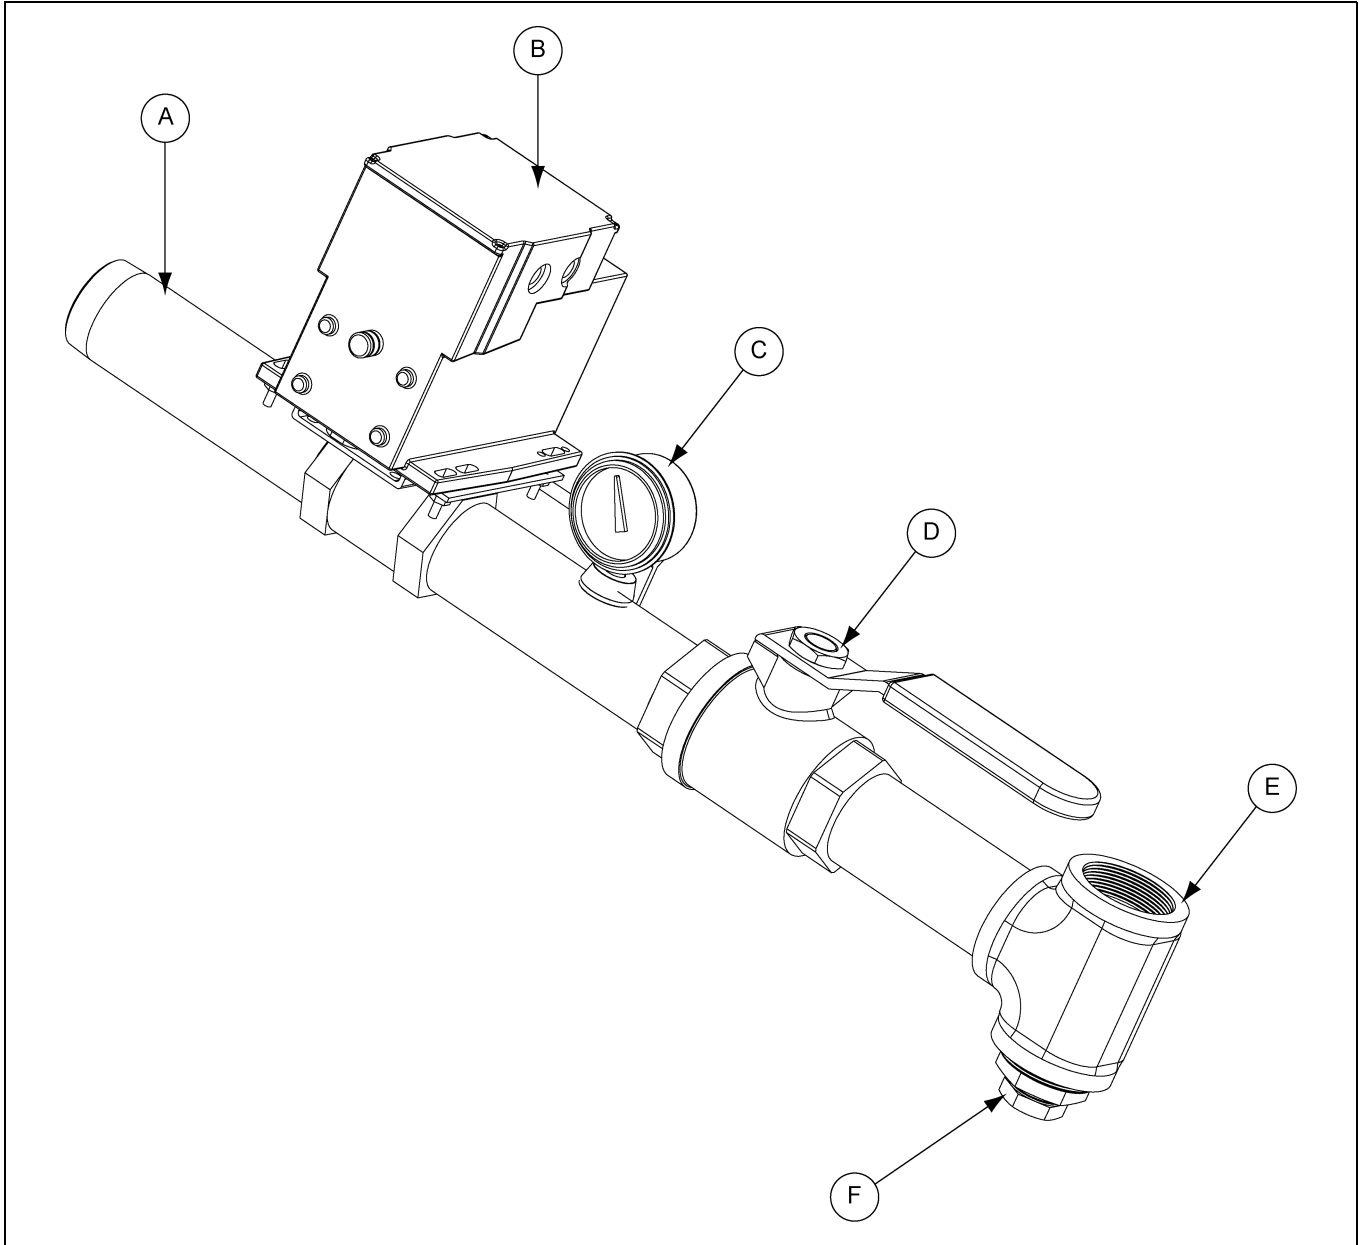

Figure 3F
6. Burner pressure with modulating valve at maximum read at burner pressure gauge. (See Figure 3F on Page 30.)
7. Burner pressure with modulating valve at minimum read at burner pressure gauge. (See Figure 3F on Page 30.)
- b. Close firing valve. (See Figure 3F on Page 30.)
- b. Close 'firing valve' on main gas line. (See Figure 3F on Page 30.)